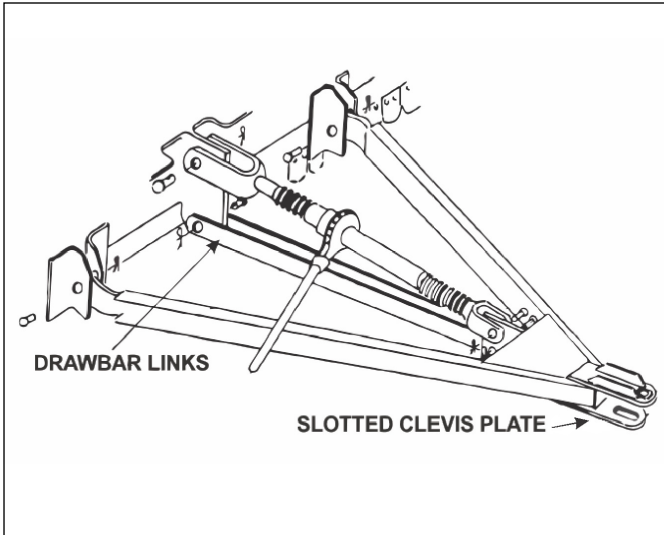

Figure 2-3: Drawbar Links
2. Attach two drawbar links to the lower holes on both front hitch and shredder frame, using the remaining clevis pins. See Figure 2-3. Do not operate the machine unless the drawbar links are installed.